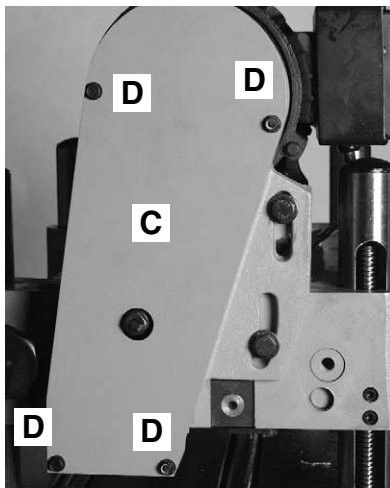

Fig. 22
Remove the pulley guard Fig. 22 (C) by taking out the 4 fixing screws Fig. 22 (D). Loosen the slotted screws Fig. 23 (E) and lever up the motor by placing a piece of wood under the motor plate. Retighten the slotted screws and replace the pulley cover.